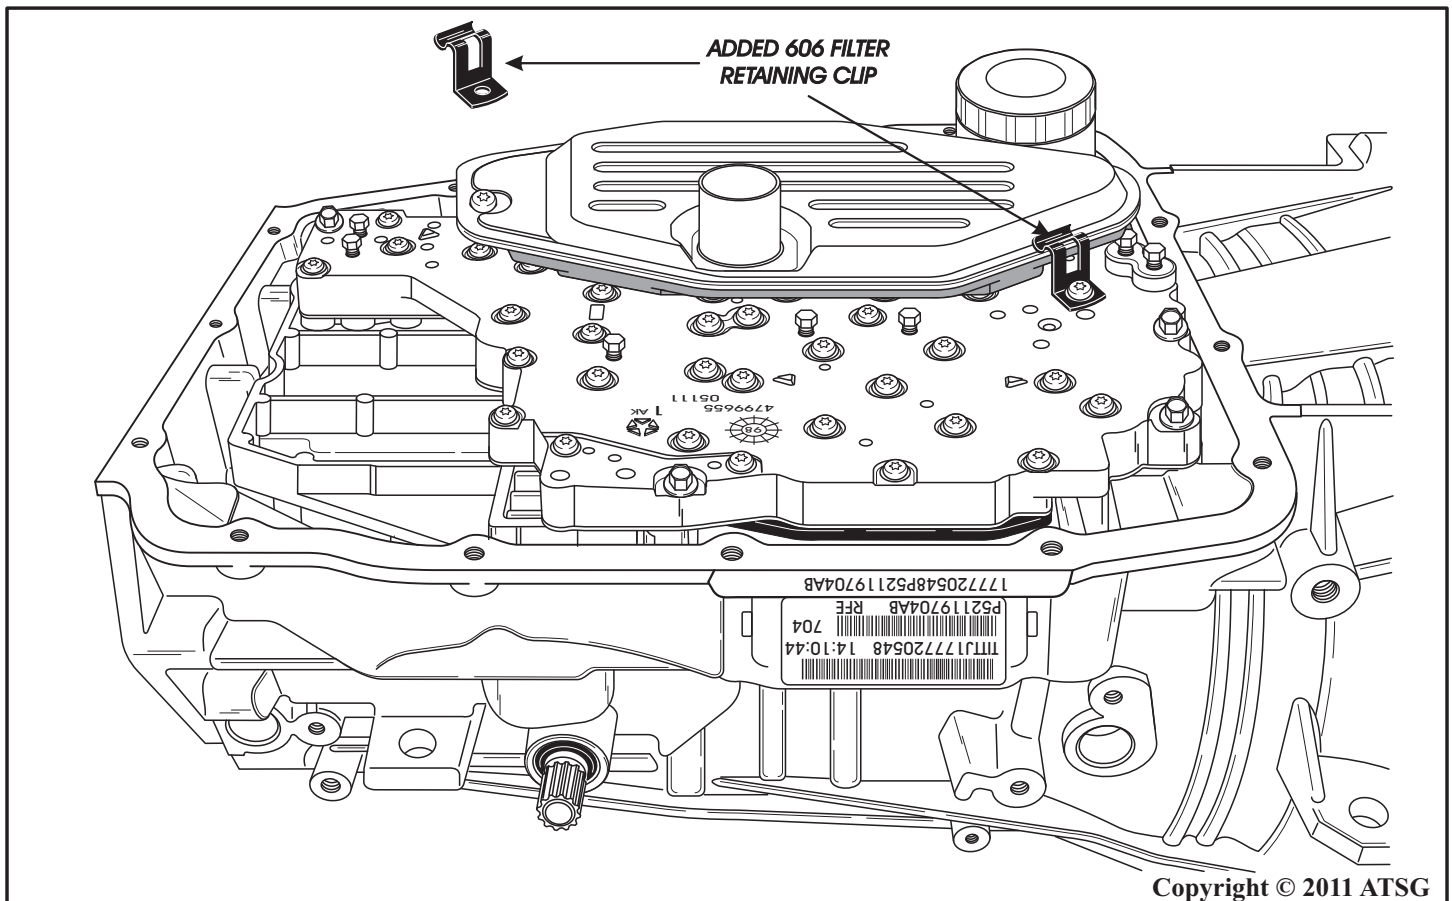

Figure 162
*Note: Some aftermarket filters are known to come out of the filter seal during operation. ATSG recommends using OEM (Filtran) for all rebuilds. Some Technicians are using the filter retaining clip from the 606 transmission, as shown in Figure 162. "Not necessary" with the OEM (Filtran) filter.*
45. You may want to add this 606 filter retaining clip to your unit as a precaution, as shown in Figure 162.